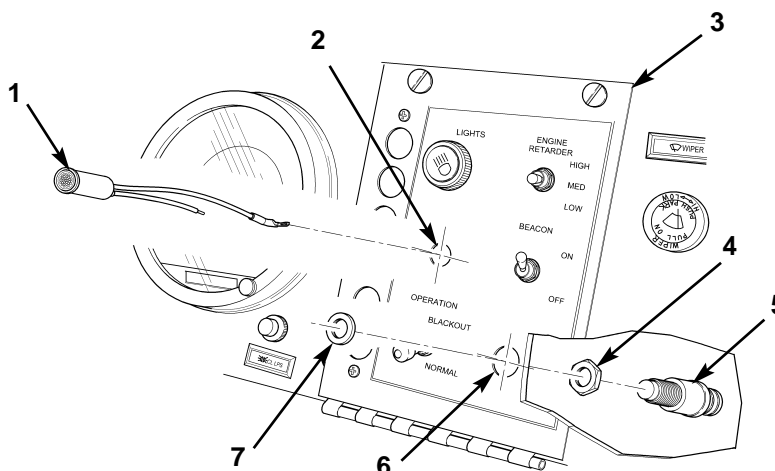

Figure 3. Removing ABS Warning Light and Test Switch.
5. From behind center control panel (figure 3, item 3), push housing of ABS warning light (figure 3, item 1) out of hole (figure 3, item 2) in center control panel (figure 3, item 3).
6. Loosen nut (figure 3, item 4) and remove collar (figure 3, item 7) and ABS test switch (figure 3, item 5) from hole (figure 3, item 6) in center control panel (figure 3, item 3).
1. Install ABS test switch (figure 3, item 5) on hole (figure 3, item 6) in center control panel (figure 3, item 3) with nut (figure 3, item 4) and collar (figure 3, item 7).
2. Install ABS warning light (figure 3, item 1) on hole (figure 3, item 2) in center control panel (figure 3, item 3) by pushing housing of ABS warning light (figure 3, item 1) through hole (figure 3, item 2) until collar is against front surface of center control panel (figure 3, item 3).